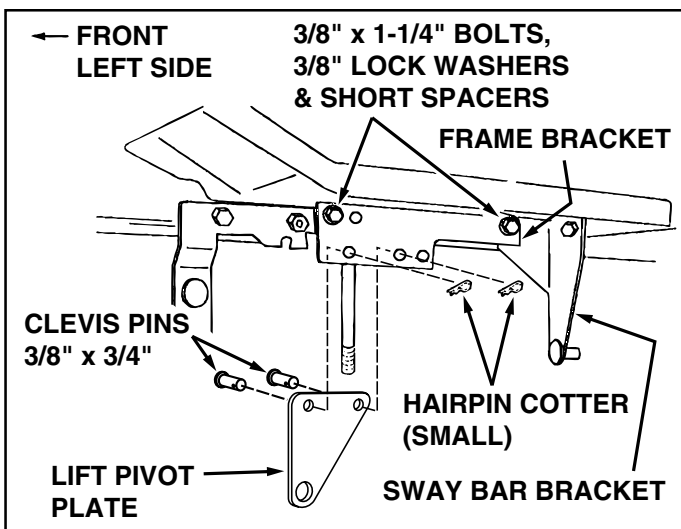

FIGURE 15
10. Assemble a frame bracket to the outside of the tractor frame under the left foot rest. Use two 3/8" x 1-1/4" hex bolts, two 3/8" lock washers and four short spacers. Use two spacers on each bolt, between the frame bracket and the tractor frame. Use only one spacer on the rear bolt if it goes through a sway bar bracket. See figure 15.
11. Assemble the lift pivot plate to the inside of the frame bracket using two 3/8" x 3/4" clevis pins and two small hairpin cotters. See figure 15.